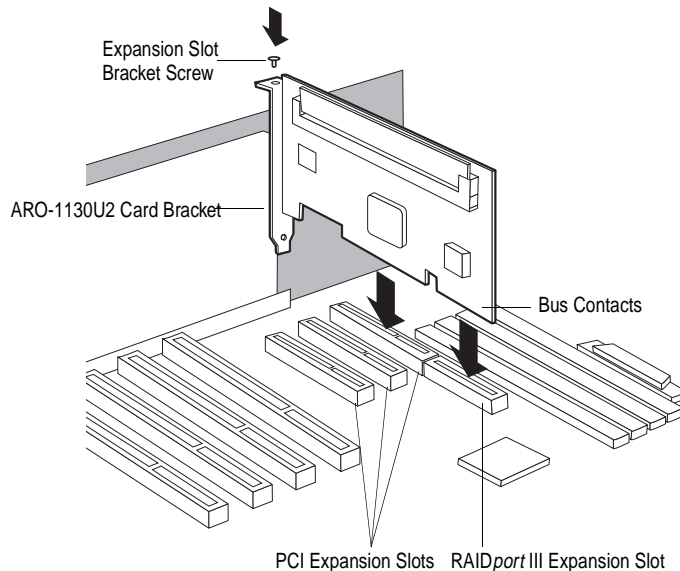

Figure 2-3. Installing the ARO-1130U2 in a Typical RAIDport III Expansion Slot
- 4 Insert the ARO-1130U2 in the slot; press down firmly so that the bus contacts are securely seated in the slot. Secure the adapter bracket with the screw you removed in Step 3, as shown in Figure 2-3.